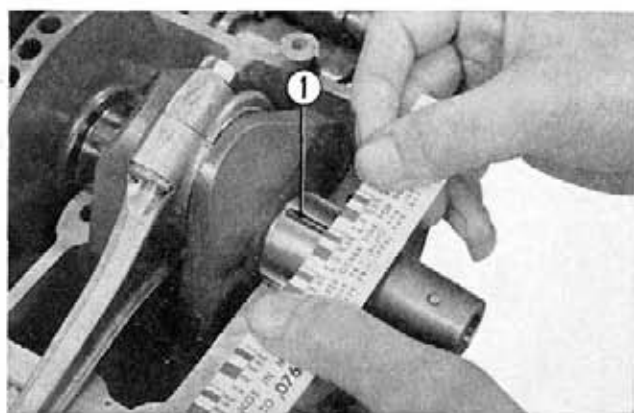

Fig. 3-79 ① Press gauge
- Assemble the crankshaft, lower crankcase and torque down the mounting bolts. Next, disassemble the lower crankcase, and check the gauge which had been flattened by comparing it with the scale on the package of the press gauge. (Fig. 3-79)